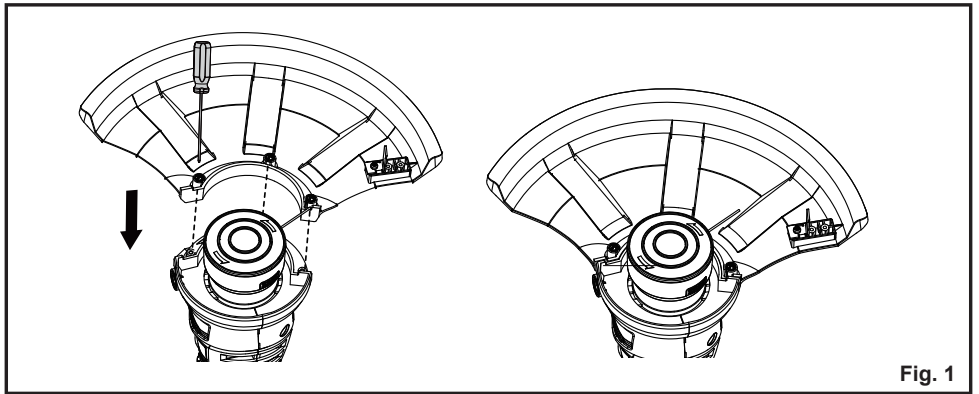

Fig. 1
1. Align the debris guard with the trimmer head and onto rear of the motor housing as shown (Fig. 1).
2. Secure the debris guard by tightening the 3 mounting screws with a screwdriver (Fig. 1).